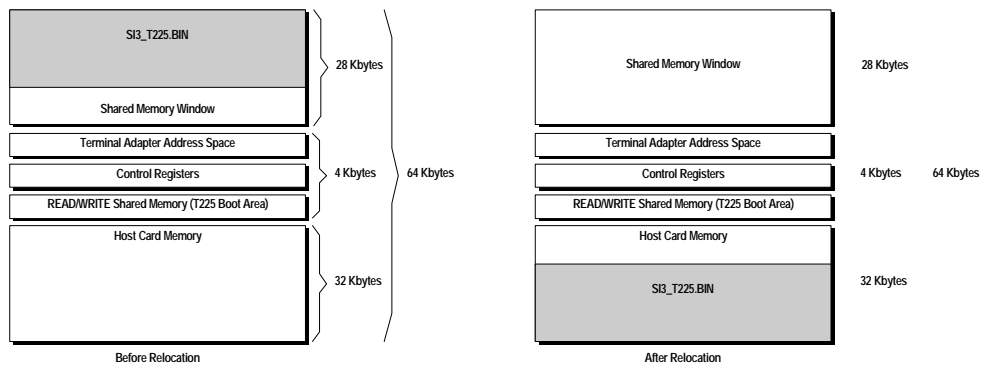

Figure 13 Relocation of SI3_T225.BIN
7.2.2.1 Relocation Program (RELOC.BIN). This program is executed first when the SI3_T225.BIN image is download and started. Its purpose is to relocate the JET.BIN program from the bottom of the shared memory window to the end of the host card memory (See Figure 13).